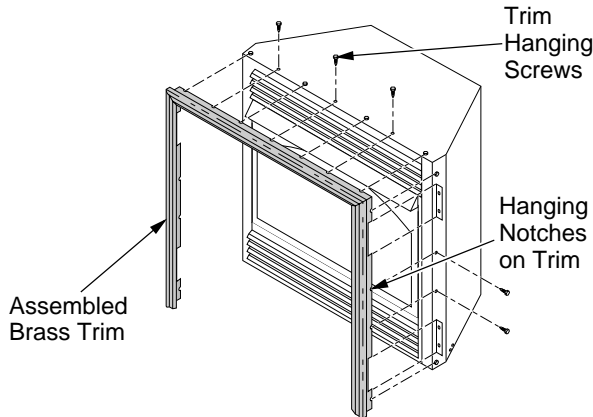

Figure 7 - Attaching Brass Trim to Fireplace
8. Tighten trim hanging screws (#10 x 6.25 shoulder) into holes in cabinets. Place the assembled trim onto fireplace cabinet. Align hanging notches on trim with hanging screws on side of fireplace (see Figure 7). Push trim firmly into place, sliding hanging notches over hanging screws.
- Install brass trim after final finishing and/or painting of wall (see Figure 7, page 8).